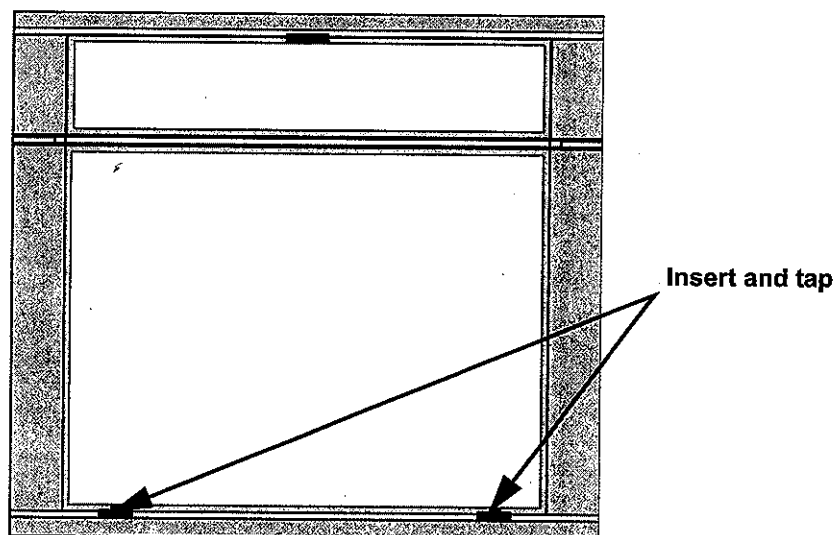

FIGURE 1-5 NON-EGRESS WINDOW
- b. **Non-Egress Window** (without black or red pull-handle) - Open window by inserting screwdriver or similar flat-bladed implement between the base of the window and window frame in the locations shown in **Figure 1-5** and pushing in, then down, until a click is heard and the catch is released.